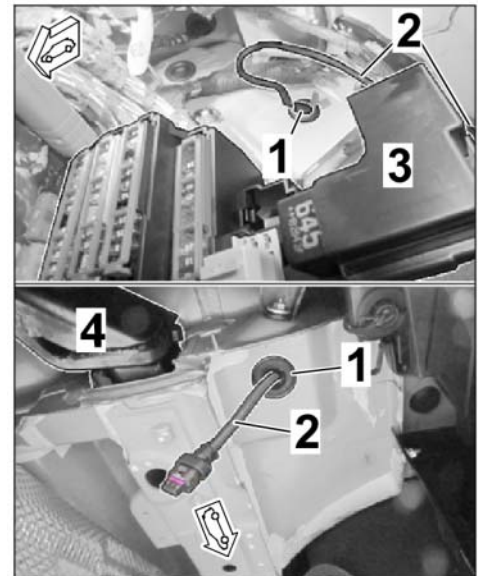

Figure 40
3.3 Guide connector (3-pin) through the bore to the underside of the vehicle and install sleeve into the bore (⇒ *Figure 40*).